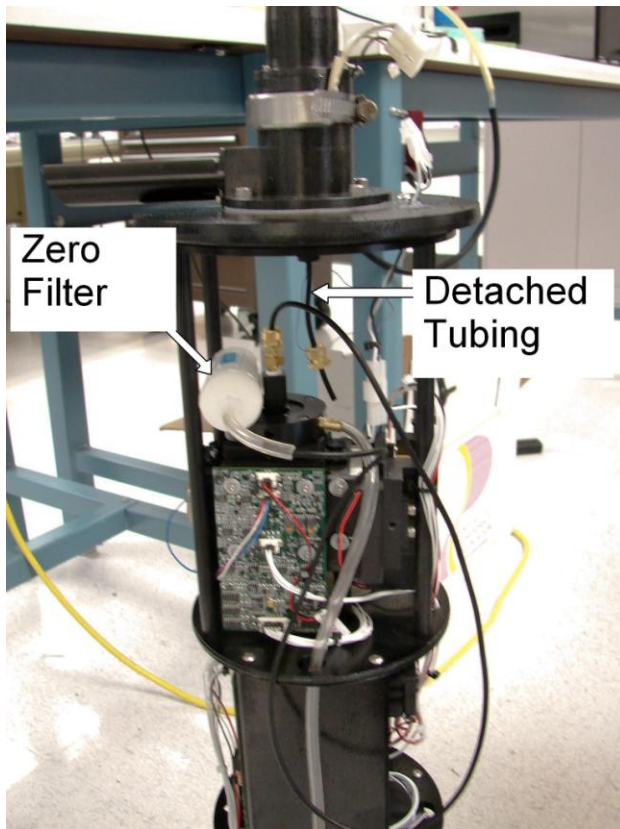

Figure 11: UHSAS Airborne with Zero-Filter in Place
- 10.) Detach the inlet tubing at the joint and install the zero-count filter, as shown in Figure 11.